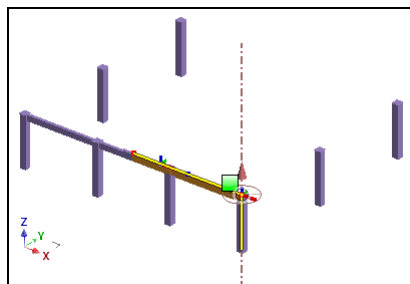

Figure 54: Specifying the rotation origin
- In the “Origin” category, click . Specify the rotation origin by snapping to the end of the beam (Figure 54).